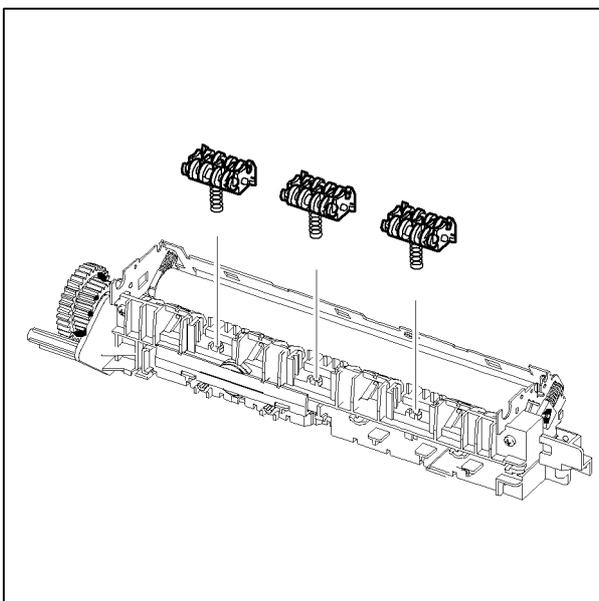

Figure 5
6. Remove the roller rack assemblies, Figure 5.